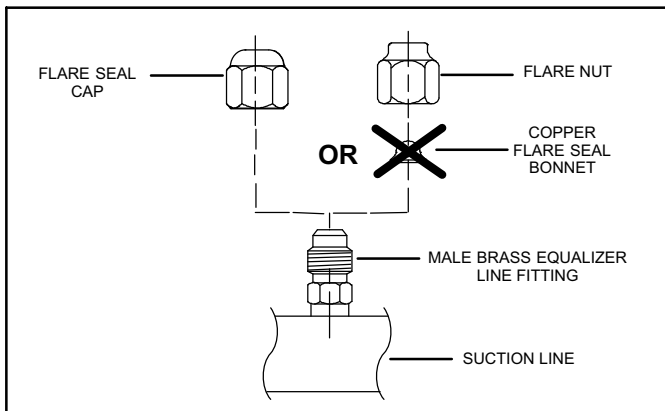

Figure 27. Copper Flare Seal Bonnet Removal
7. Remove and discard either the flare seal cap or flare nut with copper flare seal bonnet from the equalizer line port on the suction line as illustrated in Figure 27.